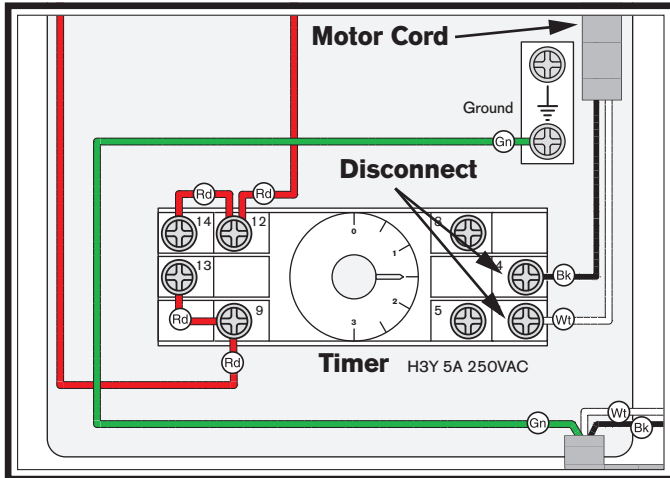

Figure 68. SB1100 filter brush motor connection.
3. Disconnect motor cord(s) from right terminals of timer inside switch box (see **Figures 68–69**).